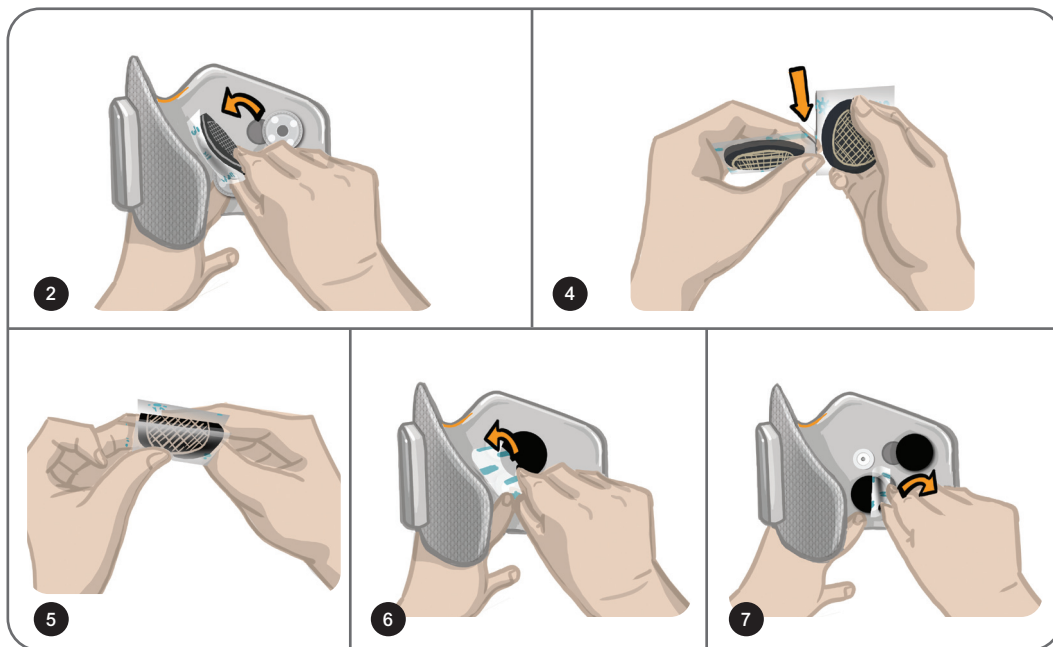

Figure 8-6: Replacing the Hydrogel Electrodes
**To replace the Hydrogel Electrodes: (See Figure 8-6)**